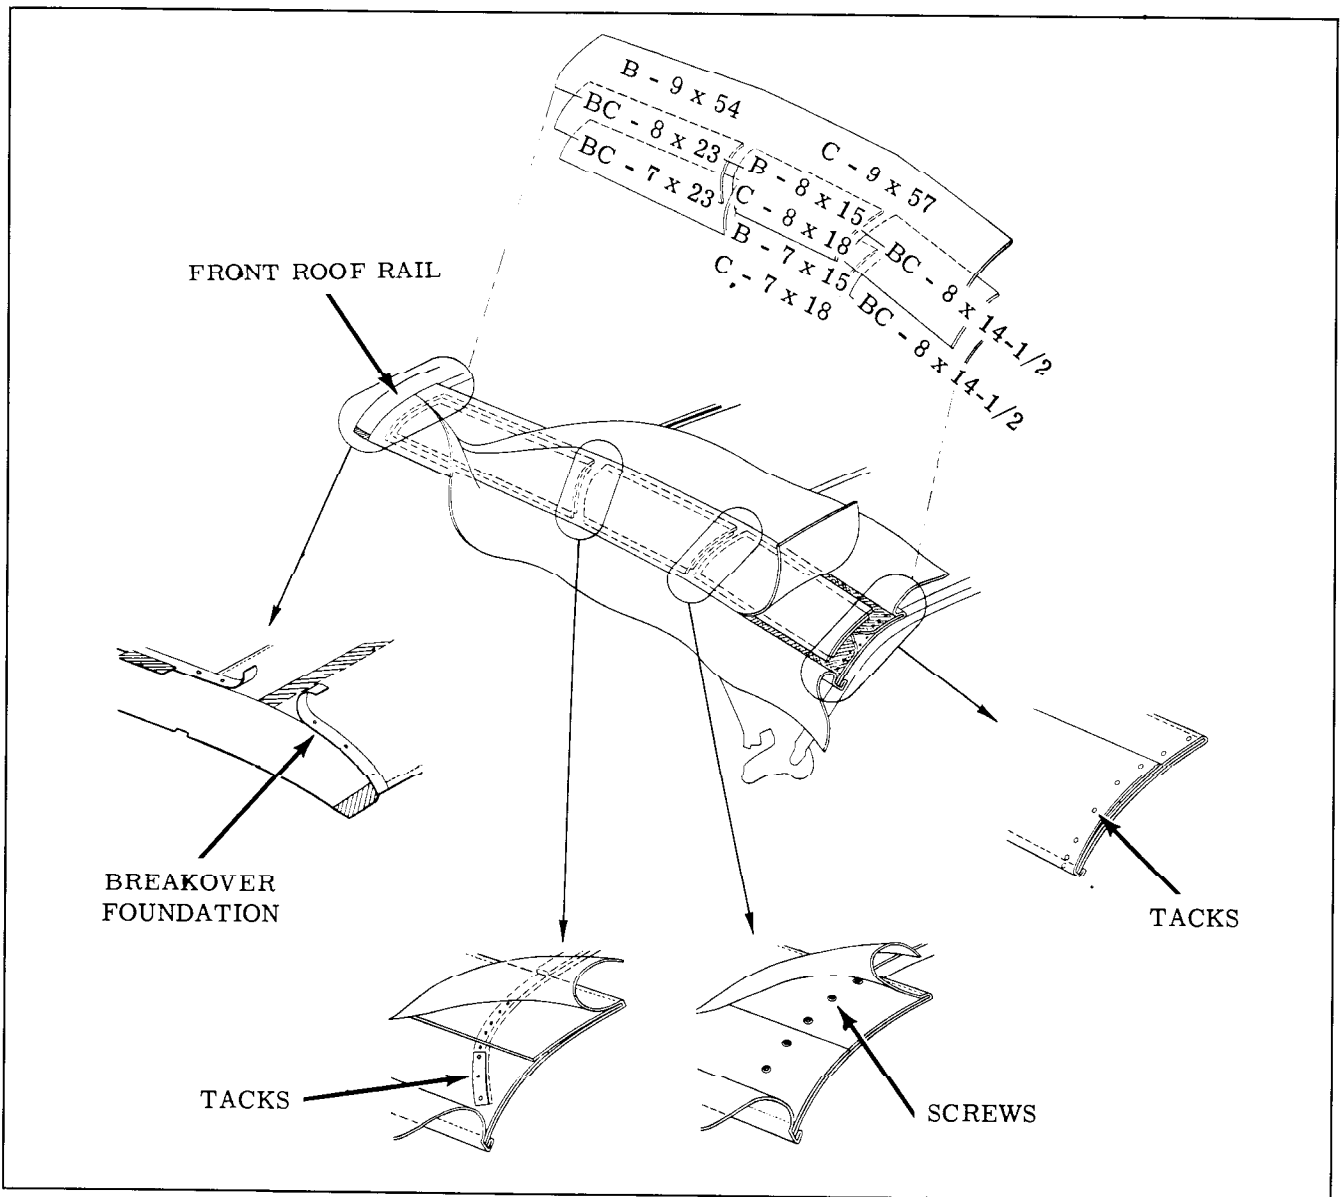

Fig. 17-126 Tacking Stay Pads
3. Tack side stay pads to rear roof bow. Stay tack pads to front roof rail and front bow. (Fig. 17-126) Install stay pad wadding using an approved trim cement.